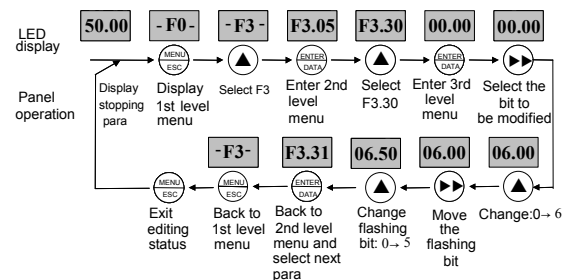

Fig. 4-8 Example of setting the parameters
**Parameter setup:** (Change the setting of F3.30 from 50.00Hz to 6.50Hz. The bold faced digits in Fig. 4-8 means the flashing bits)